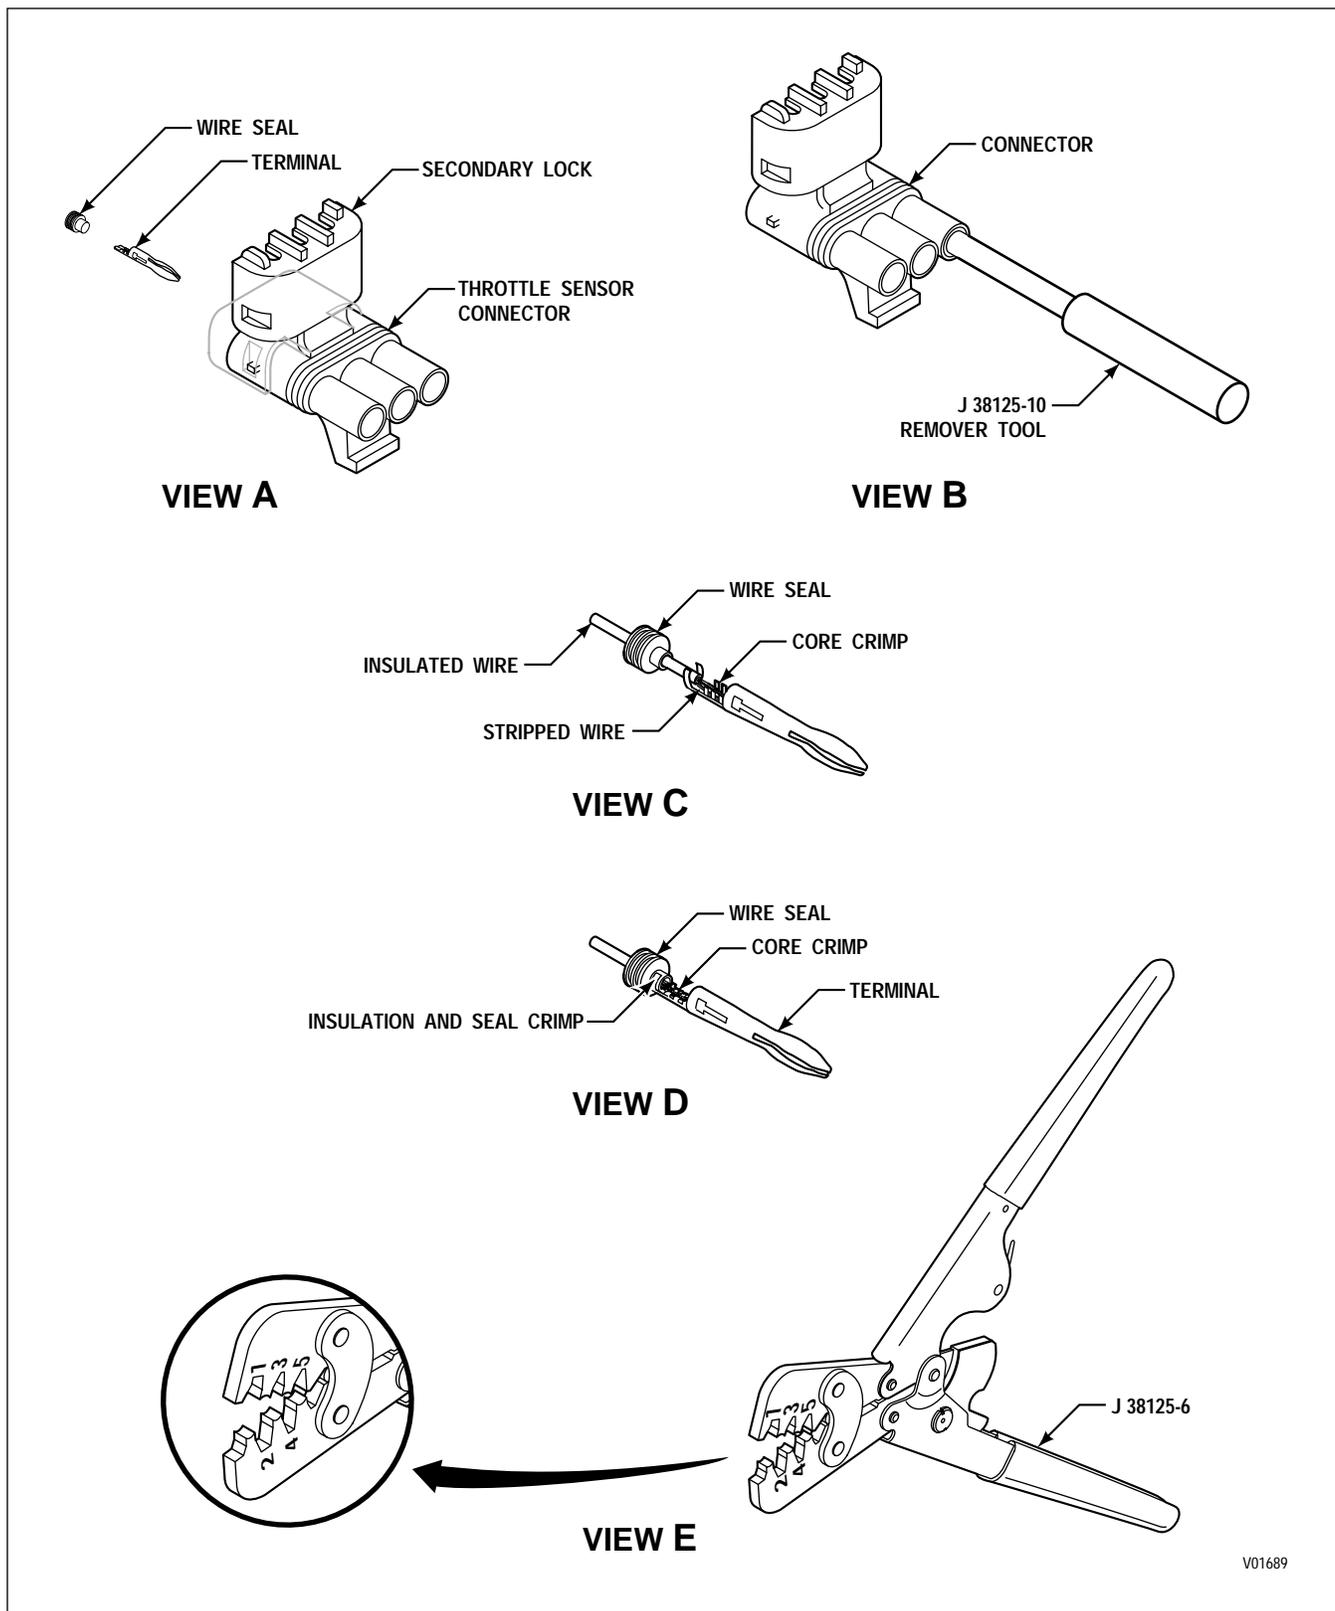

Figure C-5. Delphi-Packard WeatherPack Connector (TPS)
1. Unlatch and open the secondary lock on the connector (Figure C-5, View A).
2. On the front of the connector, insert remover tool J 38125-10 over the terminal. Push the tool over the terminal and pull the terminal out of the back end of the connector (Figure C-5, View B).
1. Place the wire seal onto the wire before stripping the wire (Figure C-5, View C).
3. Place terminal onto crimping tool J 38125-6 (Figure C-5, View E), anvil "2."
5. Insert wire so that the stripped portion of wire is in the core crimp area and the insulated portion of the wire is in the insulation crimping area (Figure C-5, View C).
8. Push the wire seal into the terminal (Figure C-5, View D). The second crimp will wrap around the wire seal. This will seal the insulated area of wire.